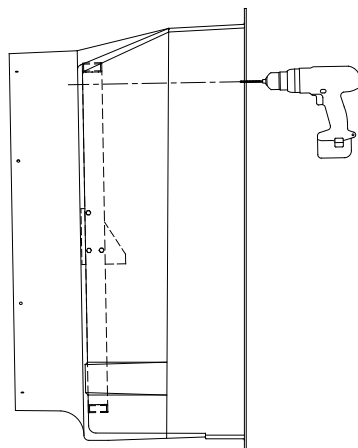

Figure 8
From outside of Fan Housing, drill (4) 1 5/32" holes in Housing using pilot holes from previous step as a guide. *See Figure 8.* Be very careful as to **NOT** drill into Threaded Insert. It is recommended that the bolts installed in outermost holes be loosened or removed to move Strut Assembly away from Housing before drilling.